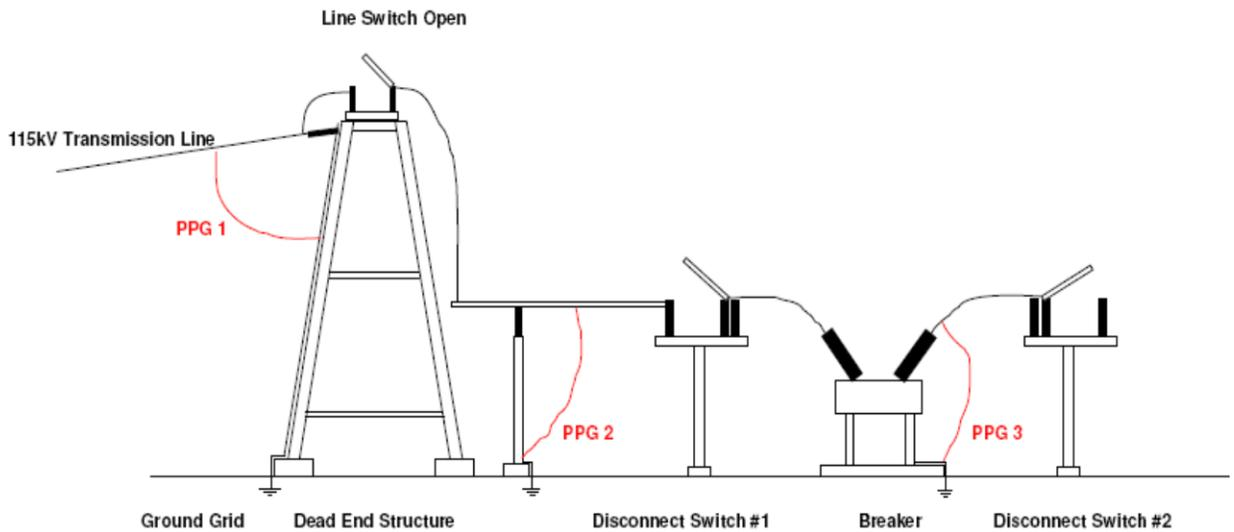

FIGURE 1
- Example 1: A substation crew is installing line taps at the top of the dead end structure between the 115kV line and line switch (Figure 1). The proper placement for personal protective grounds is PPG 1 and PPG2. In these locations the grounds positioned on each line phase will satisfy and protect against both accidental fault current through the transmission line and induced voltages from nearby energized lines and the grounds on the bus will give protection at the open blade of the line switch providing a work zone that does not break the listed unqualified work distances. Placing grounds at location PPG 2 alone would not protect the workers on both accounts since the workers would be in a dangerous position upstream of the grounds and the open line switch would not allow induced voltages to bleed off through ground PPG 2.